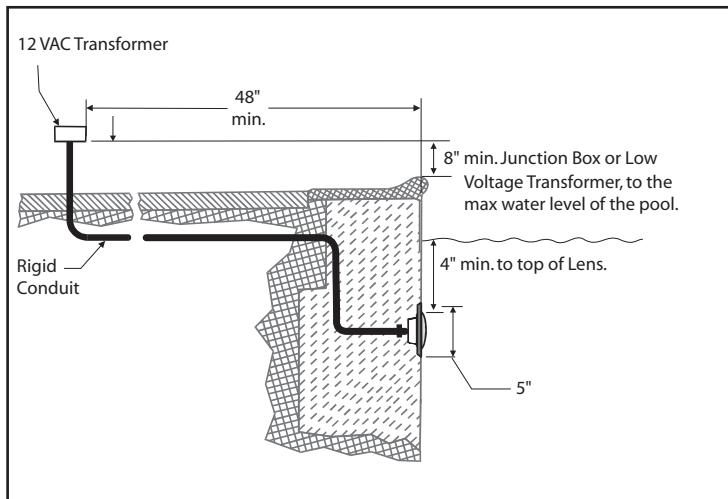

Figure 1. Jandy Pro Series LED Light Installation with Standard 1.5" Plastic Fitting
NOTE: The electrician must complete preparatory steps before light fixture is installed. See Figure 1.
1. The junction box or the low-voltage transformer must be located at least eight (8) inches (measured from the inside of the bottom of the junction box or transformer) above the MAXIMUM water level, OR at least four (4) inches above the ground level or pool deck, whichever is greater. The junction box or transformer must also be installed at least forty-eight (48) inches (4 ft.) from the edge of the pool. See Figure 1.
2. A standard 1.5" plastic wall / return fitting (not included) must be installed so that the top edge of the underwater light's lens is at least 4 inches (10.2 cm) below the surface of the water in the pool. See Figure 1.
1. Feed cord through electrical conduit to junction box, leaving at least fourteen (14) inches of slack cord in the conduit near the pool wall to allow for winterization. See Figure 1.